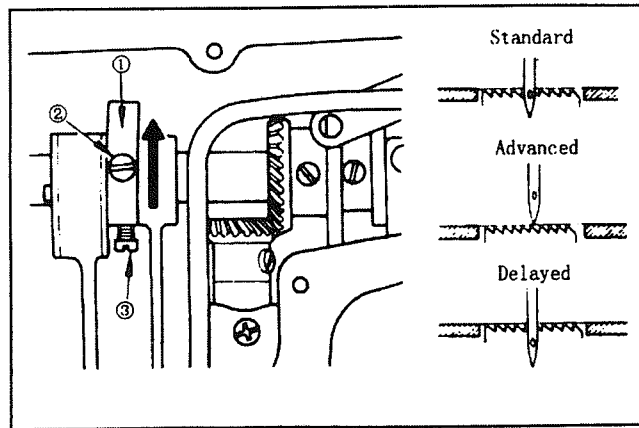

Fig.18
12.ADJUSTING THE FEED TIMING (Fig.18)